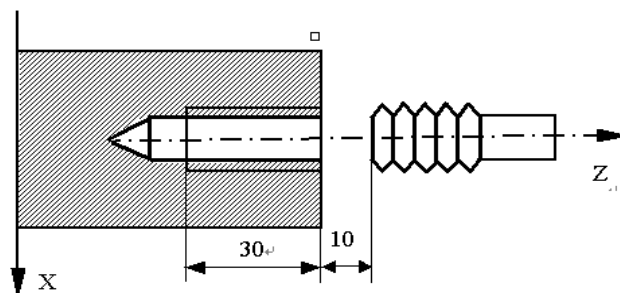

Fig.3-87
- ① Z tool infeed (start spindle before G33 is executed);
- ② M05 signal outputs after Z reaches the specified end point in programming;
- ③ Test spindle after completely stopping;
- ④ Spindle rotation (CCW) signal outputs (reverse to the original rotation direction);
- ⑤ Z executes the tool retracts to starting point;
- ⑥ M05 signal outputs and the spindle stops;
- ⑦ Repeat the steps ①~⑥ if multi threads are machined.
**Example:** Fig. 3-87, thread M10 $\times$ 1.5